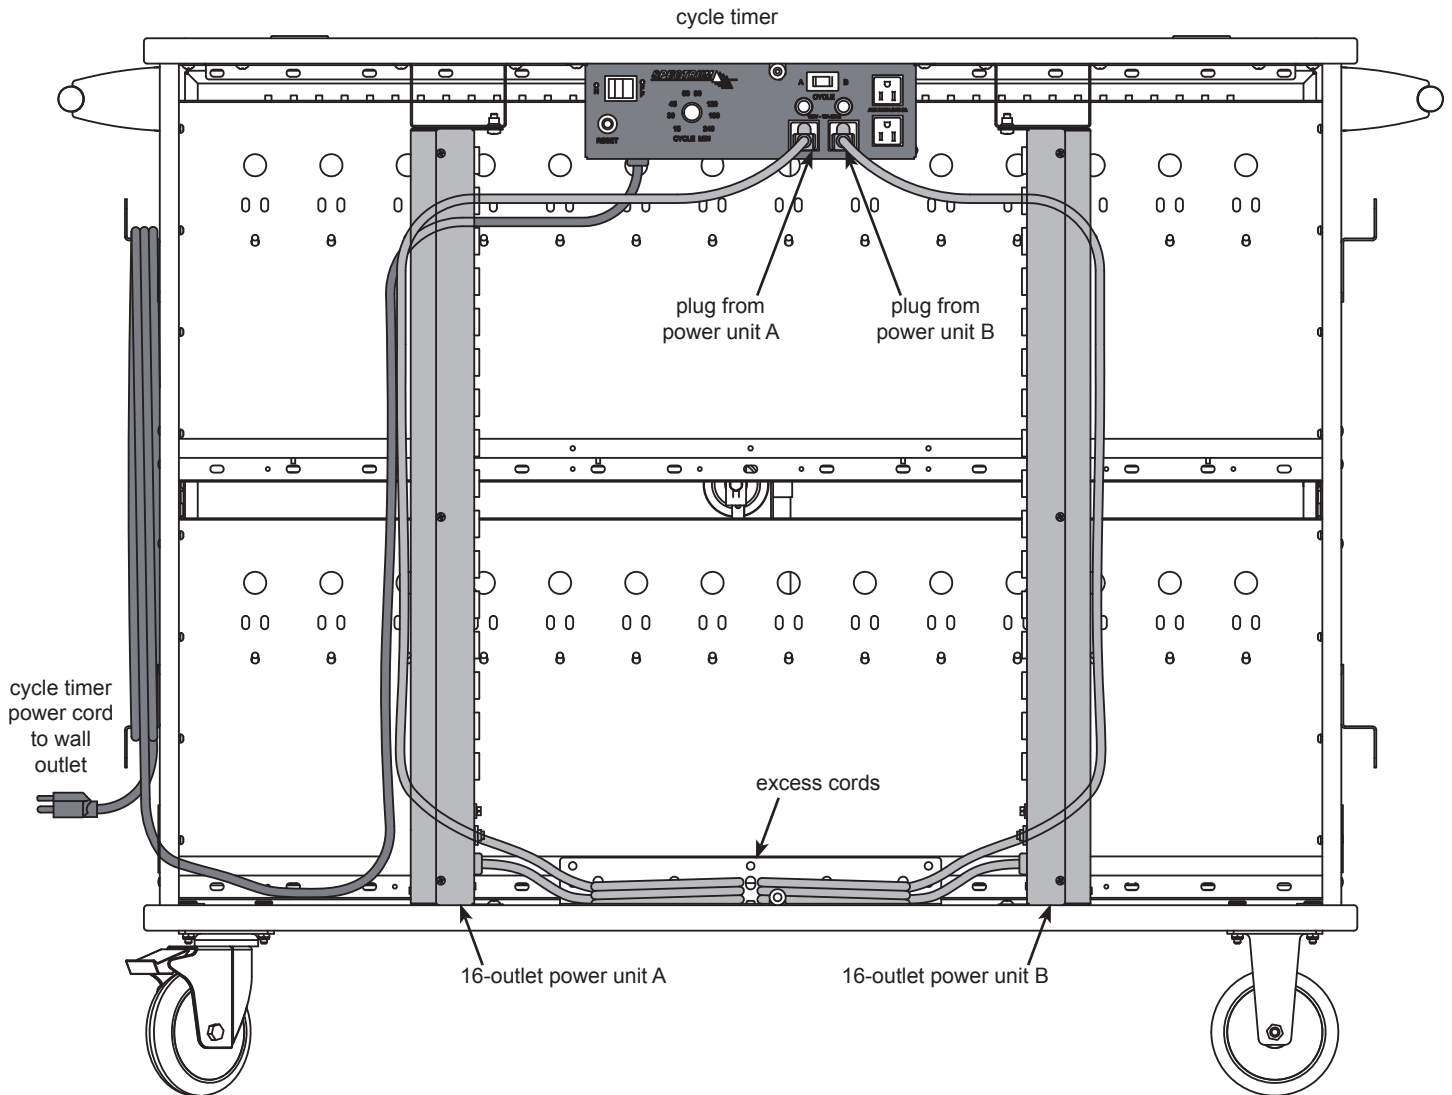

Figure 10
2. Route the power unit cords as shown and plug one in to the A side outlet, and one into the B side outlet on the timer. **Figure 10.** (routing these cords behind the power units will provide easier access to the outlets.)